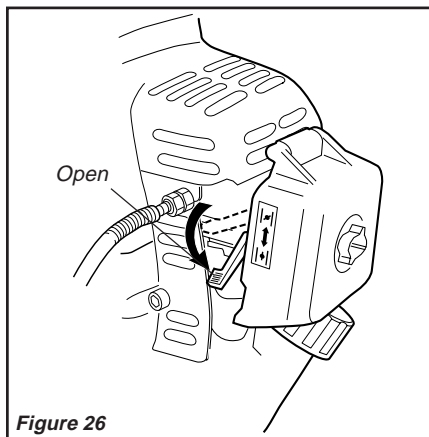

Figure 26
- When the engine starts, slowly move the choke lever to the "OPEN" position. See Figure 26. (If the engine stops after the initial start, close the choke and restart.)